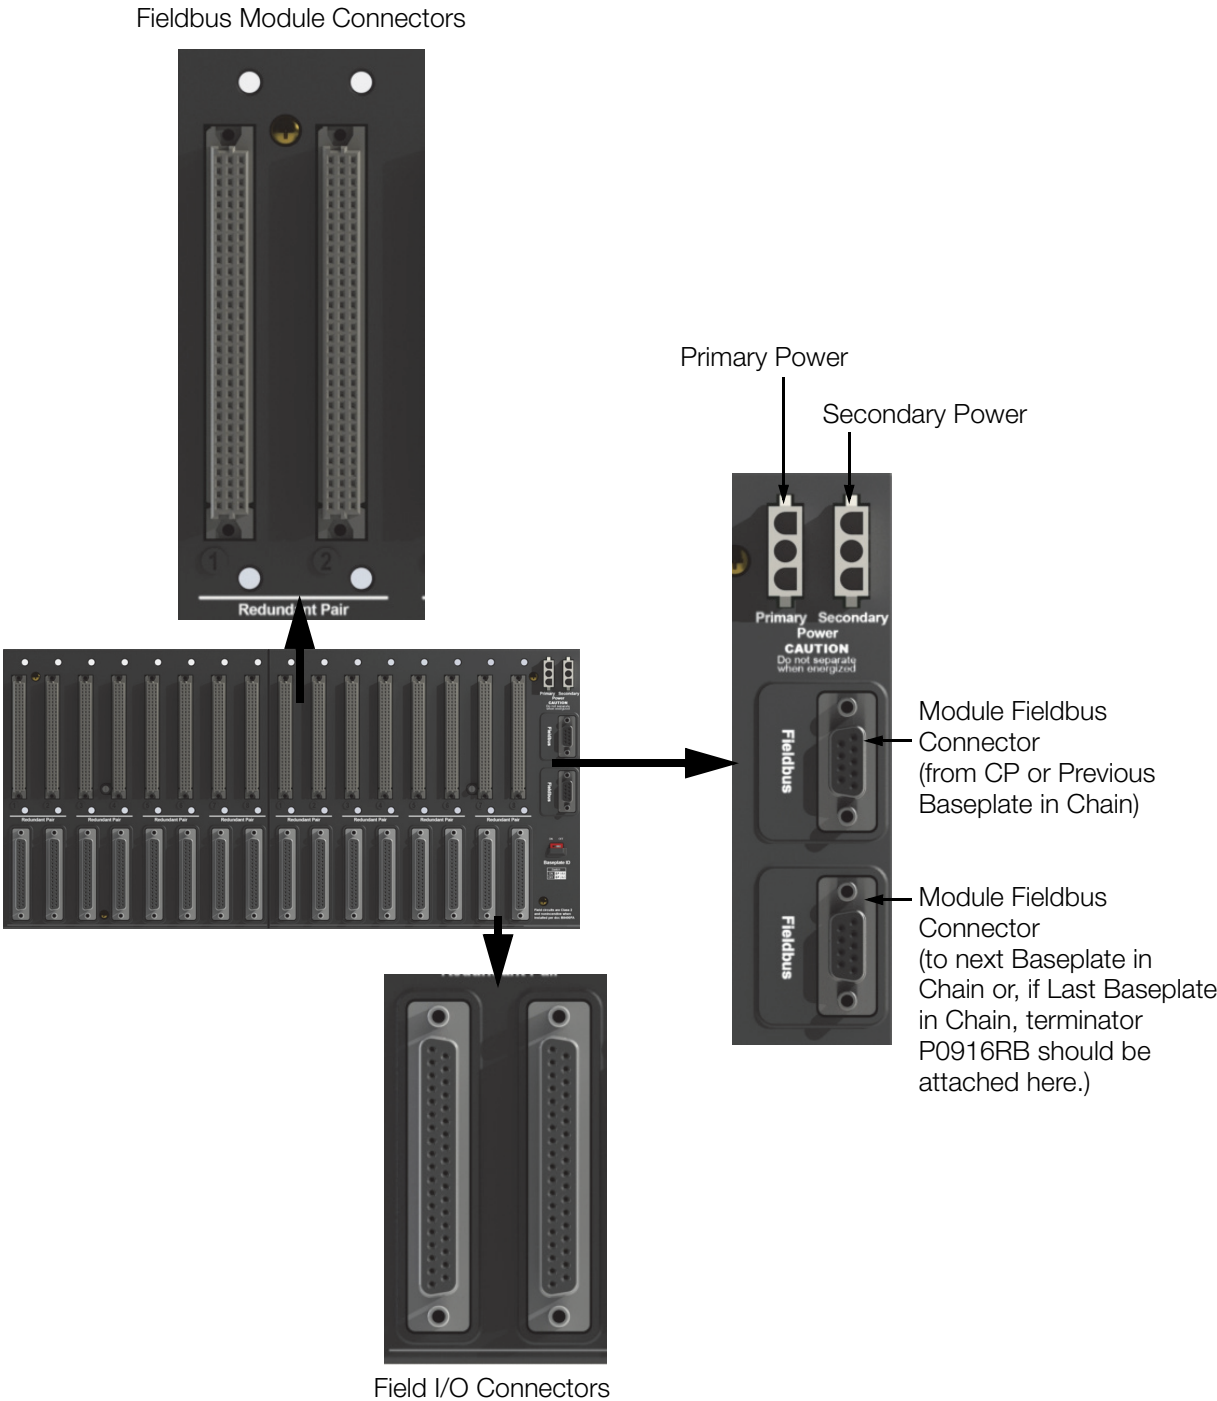

Figure 4. Compact 200 Series Baseplate Connections (Example)
- ▶ The physical position (see Figure 4) of the module on the Compact or standard 200 Series baseplate.
All connectors are labeled to indicate their position and/or function on the Compact 200 Series baseplate (see Figure 4). All module connectors have guides to ensure the correct insertion of the module into the baseplate. Primary and Secondary power connectors are direct connections from the power supply. (The Compact 200 Series baseplate accepts power from the FPS480-24, FPS400-24, FPS240-24, or FPS120-24 power supplies. For custom enclosures, select the appropriate power supplies based upon the power budget within your enclosure.)